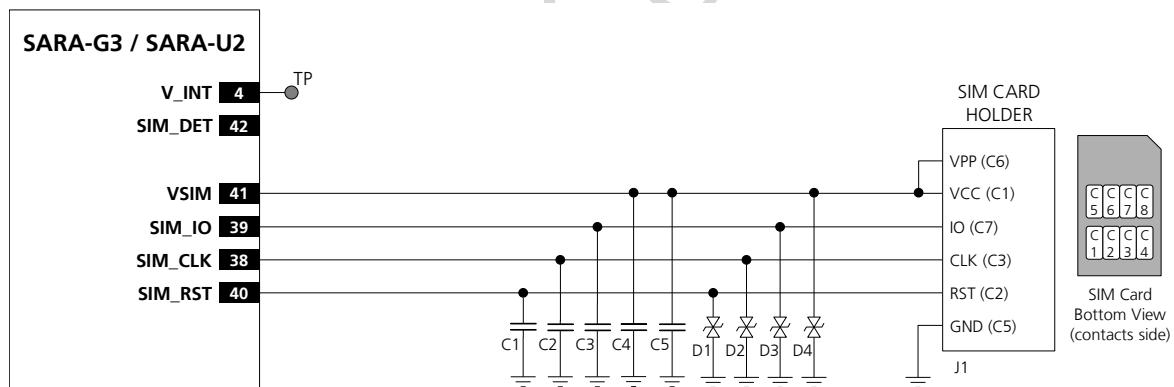
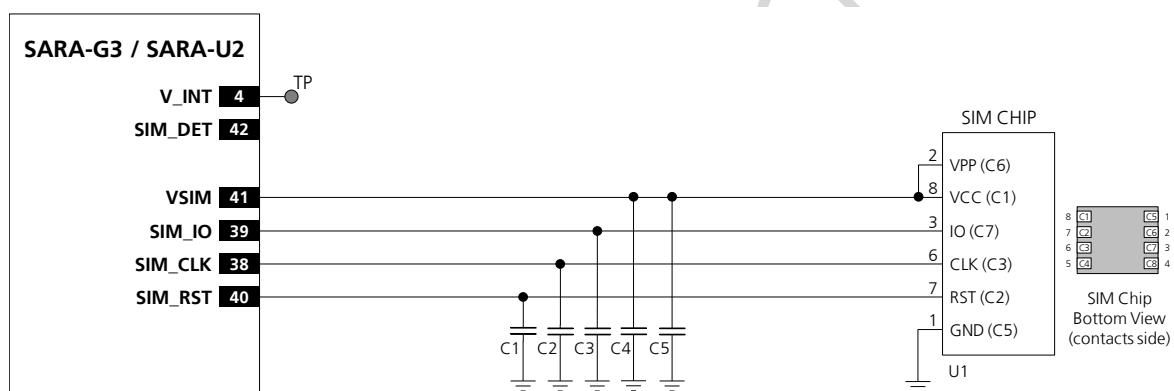
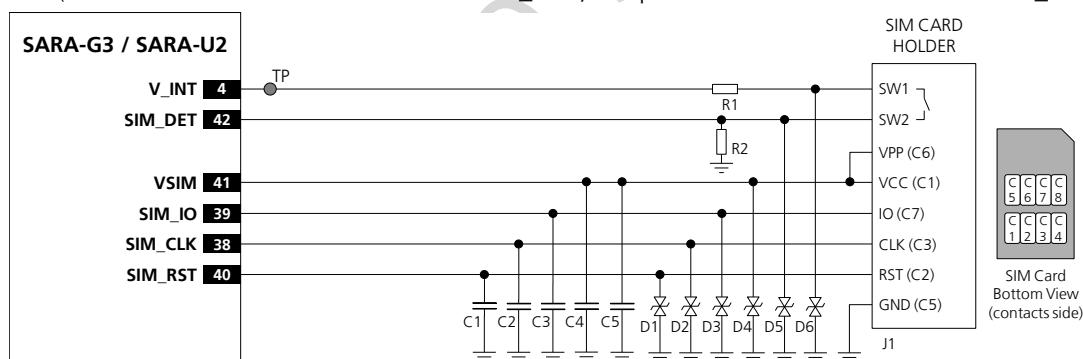
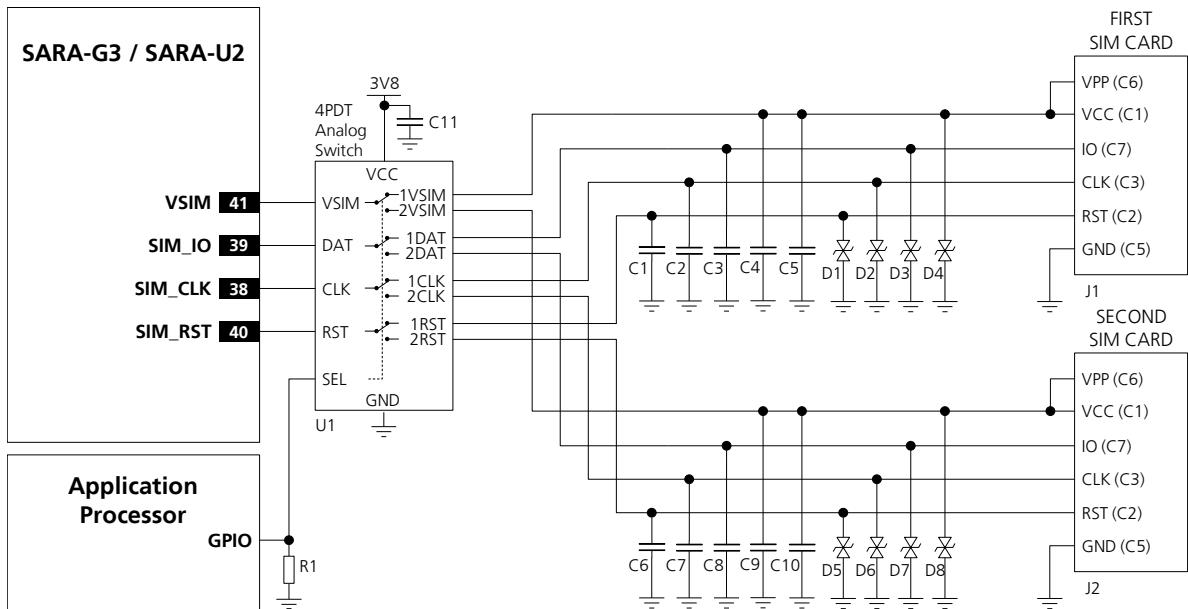

Figure 54: Application circuit for the connection to a single removable SIM card, with SIM detection not implemented
Figure 55: Application circuit for the connection to a single solderable SIM chip, with SIM detection not implemented
Figure 56: Application circuit for the connection to a single removable SIM card, with SIM detection implemented
Figure 57: Application circuit for the connection to two removable SIM cards, with SIM detection implemented
An application circuit for the connection to a single removable SIM card placed in a SIM card holder is described in Figure 54, where the optional SIM detection feature is not implemented (see the circuit described in Figure 56 if the SIM detection feature is required).
An application circuit for the connection to a single solderable SIM chip (M2M UICC Form Factor) is described in Figure 55, where the optional SIM detection feature is not implemented (see the circuit described in Figure 56 if the SIM detection feature is required).
An application circuit for the connection to a single removable SIM card placed in a SIM card holder is described in Figure 56, where the optional SIM card detection feature is implemented.
- Connect one pin of the mechanical switch integrated in the SIM connector (as the SW2 pin in Figure 56) to the **SIM\_DET** input pin, providing a weak pull-down resistor (e.g. 470 kΩ, as R2 in Figure 56)
- Connect the other pin of the mechanical switch integrated in the SIM connector (as SW1 pin in Figure 56) to the **V\_INT** 1.8 V supply output by means of a strong pull-up resistor (e.g. 1 kΩ, as R1 in Figure 56)
Two SIM card / chip can be connected to the SIM interface of SARA-G3 and SARA-U2 modules as described in the application circuit of Figure 57.
SARA-G3 and SARA-U2 modules do not support the usage of two SIM at the same time, but two SIM can be populated on the application board providing a proper switch to connect only the first SIM or only the second SIM per time to the SIM interface of the SARA-G3 and SARA-U2 modules as described in Figure 57.
In the application circuit example represented in Figure 57, the application processor will drive the SIM switch using its own GPIO to properly select the SIM that is used by the module. Another GPIO may be used to handle the SIM hot insertion / removal function of SARA-U2 modules, which can also be handled by other external circuits or by the cellular module GPIO according to the application requirements.
The dual SIM connection circuit described in Figure 57 can be implemented for SIM chips as well, providing proper connection between SIM switch and SIM chip as described in Figure 55.
If it is required to switch between more than two SIM, a circuit similar to the one described in Figure 57 can be implemented: for example, in case of four SIM circuit, using proper four-pole four-throw switch (or for example four single-pole four-throw switches) instead of the suggested four-pole double-throw switch.
In the second case, the same harmonics can be picked up and create self-interference that can reduce the sensitivity of GSM / UMTS receiver channels whose carrier frequency is coincidental with harmonic frequencies: placing the RF bypass capacitors suggested in Figure 56 near the SIM connector will mitigate the problem.
In addition, since the SIM card is typically accessed by the end user, it can be subjected to ESD discharges: add adequate ESD protection as suggested in Figure 56 to protect module SIM pins near the SIM connector.